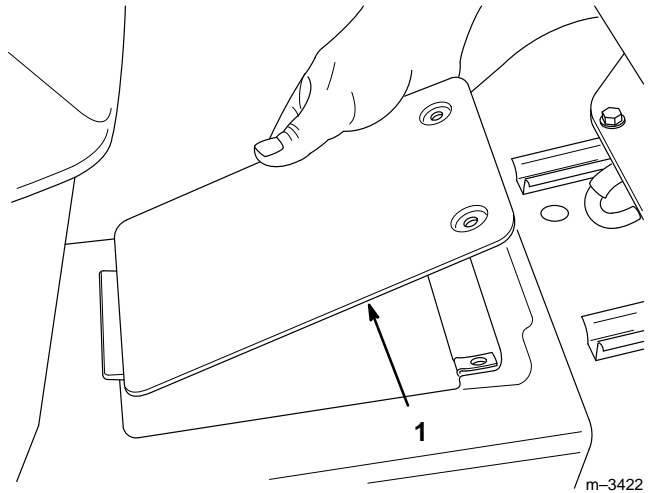

Figure 32
3. Open the drive shaft maintenance cover on the tractor tunnel near the seat by unscrewing the two screws securing it, then raising it (Fig. 32).